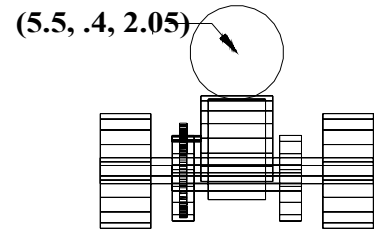

FIG. 22
Step 13. In the Front View, move cursor to the coordinates **(5.5, .4, 2.05)** and click for the center battery, **Fig. 22**.